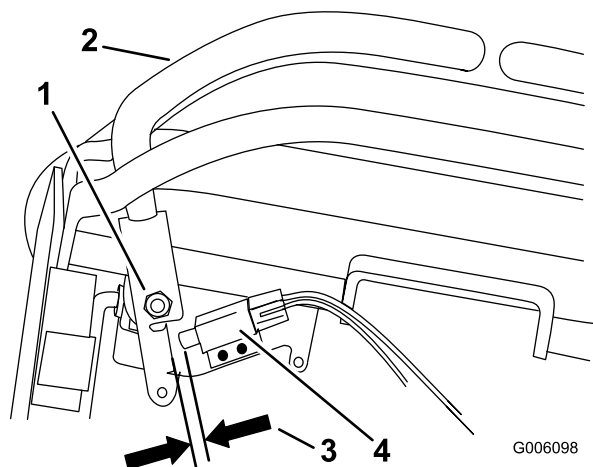

Figure 55
10. Check the gap between the control lever and the switch as shown in Figure 55. The gap needs to be between 1.6 to 2.4 mm (1/16 to 3/32 inch).